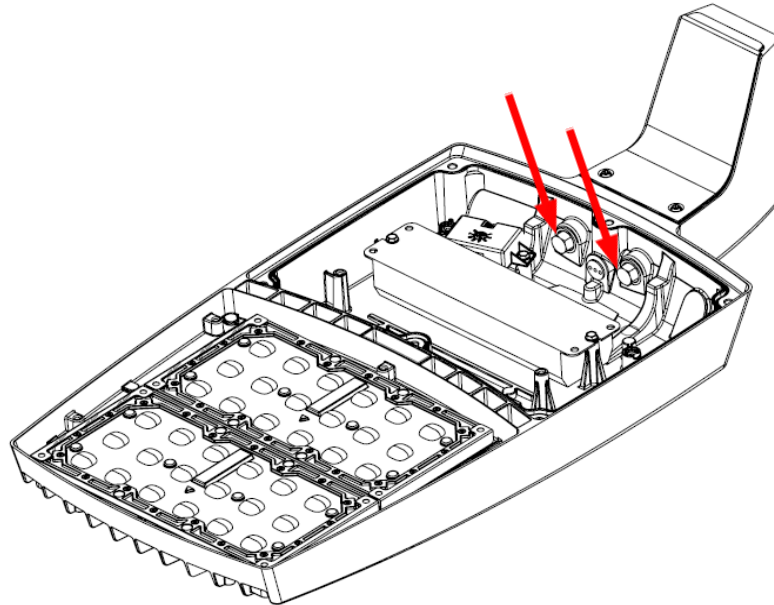

Figure 2 – RSX arm screws. RSX2 shown
**Step 4:** Using a torque wrench and 5/8" socket, loosen and remove the 2 bolts securing the arm to the housing, shown in figure 2 on the next page. After the bolts have been completely loosened, remove them along with the sealing washers around them and discard.
**Step 1:** If the sealing washers (items #6) included with the repair kit are still loose, insert them onto the 7/16-14 bolts (items #5). Insert the bolts into the thru holes on the housing where the previous bolts were removed from (see figure 2 for reference). With the replacement RSX arm sealing gasket (item #2) in place on the housing, align the new arm assembly and attach it via the new bolts. **Tighten the bolts to 36.7 – 40.3 ft-lbs. (440-490 in-lbs.).**
**Step 1:** If the sealing washers (items #2) included with the repair kit are still loose, insert them onto the 7/16-14 bolts (items #1). Insert the bolts into the thru-holes on the housing where the previous bolts were removed from (see figure 2 for reference). With the replacement RSX arm sealing gasket (item #3) in place on the housing, align the new arm assembly and attach it via the new bolts. **Tighten the bolts to 36.7 – 40.3 ft-lbs (440-490 in-lbs).**